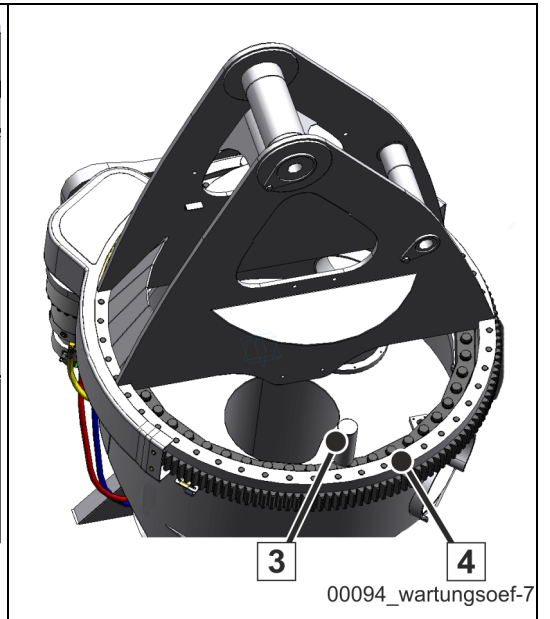
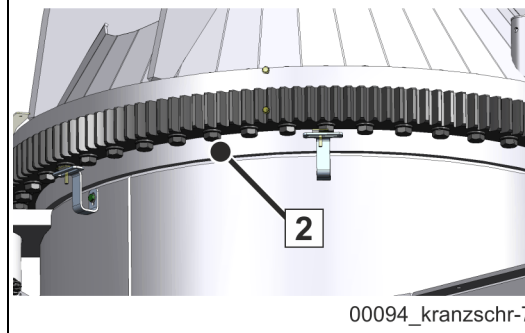

Fig. 320 Example: Maintenance opening
Fig. 321 Slewing ring screws
Check the inner slewing ring screws (4) through the maintenance opening (3) (**Fig. 320**).
Do not retighten loose slewing ring screws (2) (**Fig. 321**) and (4) (**Fig. 320**) but rather replace them along with their washers.